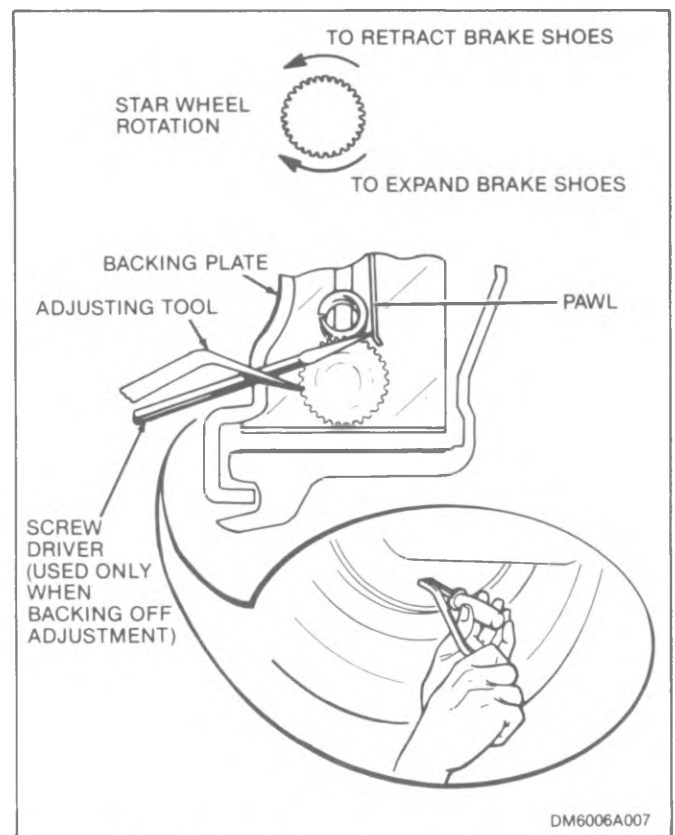
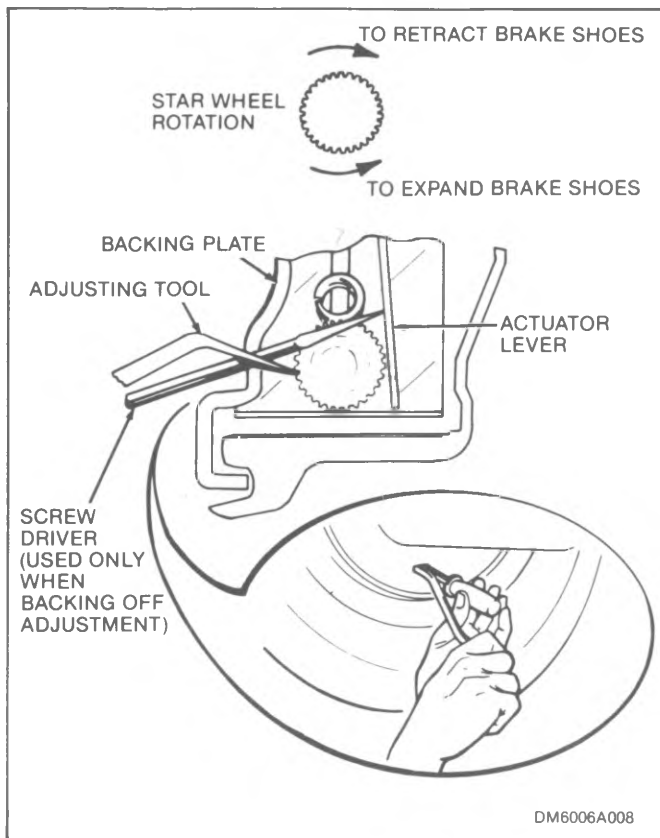

Figure 3-5. Manual Adjustment Through Backing Plate—Apply Actuated Adjuster
Figure 3-6. Manual Adjustment Through Backing Plate—Release Actuated Adjuster
2. **ADJUSTMENT THROUGH BACKING PLATE.** To expand the brake shoes, use a brake adjusting tool to turn the star wheel in the direction shown in figure 3-5 (apply actuated adjuster) or figure 3-6 (release actuated adjuster). Expand the shoes to produce heavy drag on the wheel. To retract the brake shoes, use a screwdriver to move pawl or actuator lever away from star wheel (see figure 3-5 or 3-6), back off the star wheel approximately 30 notches.